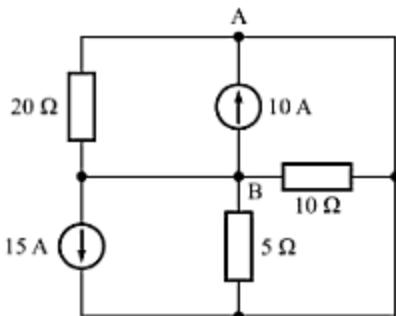

Fig. A-98
- A-62. In the circuit of Fig. A-98, find the current through 10-Ω resistor.